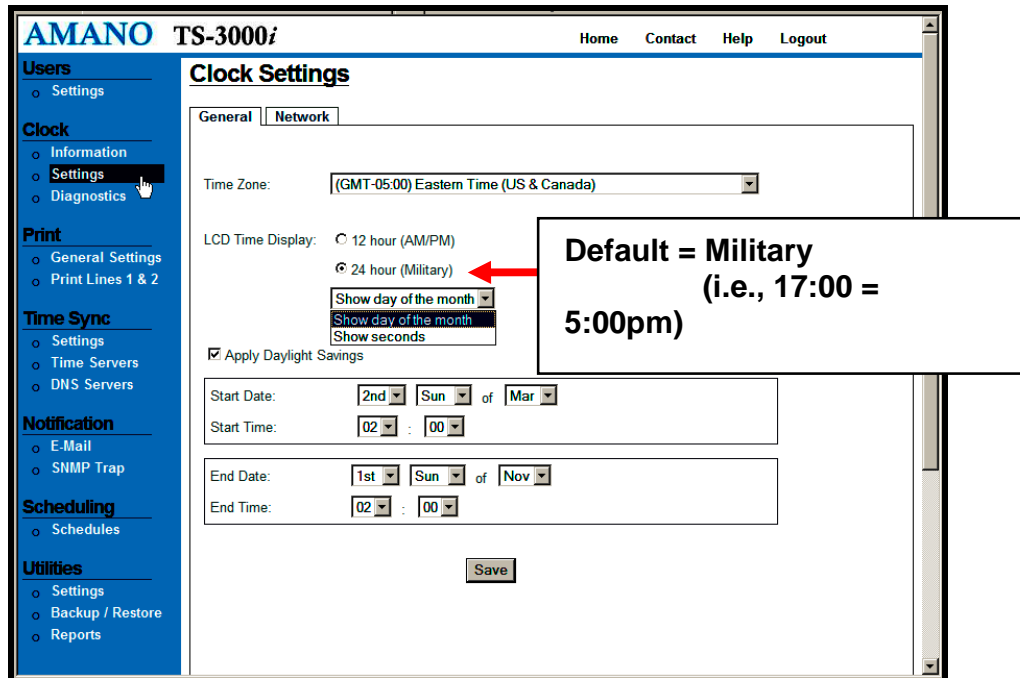

Figure 4-4: General Clock Settings
- Step 3.** Click on the **Settings** link under Clock, and the **Clock Settings** screen for general settings will appear (see *Figure 4-4*). Select the appropriate Time Zone from the dropdown menu, select 12 hour (AM/PM) or 24 hour (Military = default setting) for the display and transaction format. Select if seconds or date will be displayed. Check whether or not daylight savings should be applied. Enter the Start and End DST dates/times if DST applied. Click on the **Save** button to save custom general clock settings.
- Step 1.** After you have logged in, click on the **Settings** link under Clock, and the **Clock Settings** screen for general settings will appear (see *Figure 4-4*).
- Step 2.** Select the appropriate Time Zone from the dropdown menu (see *Figure 4-4*). The default = EST. The Time Zone selected controls the Time Zone adjustment sent to the clock. If OATS compliance is necessary, the Time Zone must be set to the default of (GMT-05:00) Eastern Time (US & Canada).